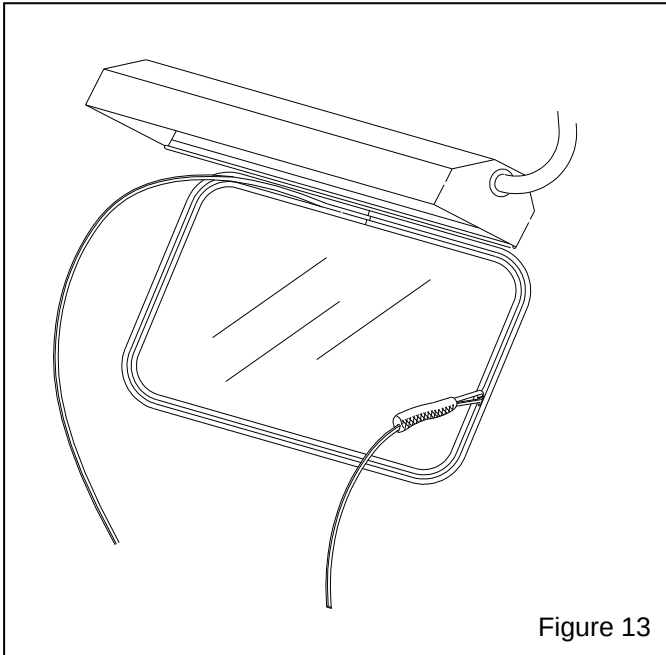

Figure 13
6.3.10 Feed the filler strip while pulling the tool through the top of the channel, down the side and across the bottom until that end of the strip is in place. Ref. Figure 13.